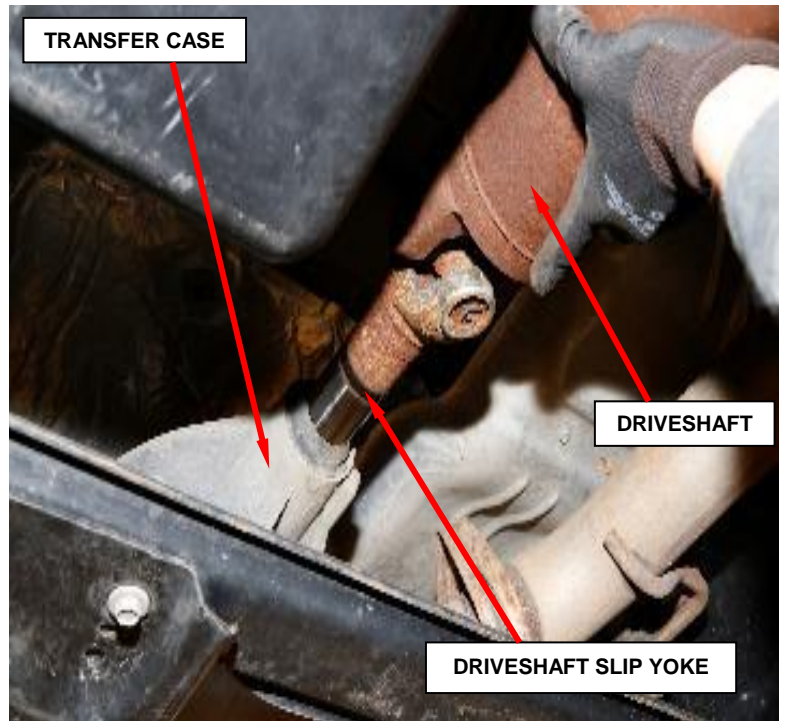

Figure 2 – Driveshaft to Output Shaft
3. Slide the driveshaft off the automatic transmission/transfer case output shaft, then remove and **DISCARD** the driveshaft (Figure 2).
4. Position the **NEW** driveshaft to the transmission/transfer case output shaft (Figure 2).
5. Slide the slip yoke onto automatic transmission/transfer case output shaft (Figure 2).